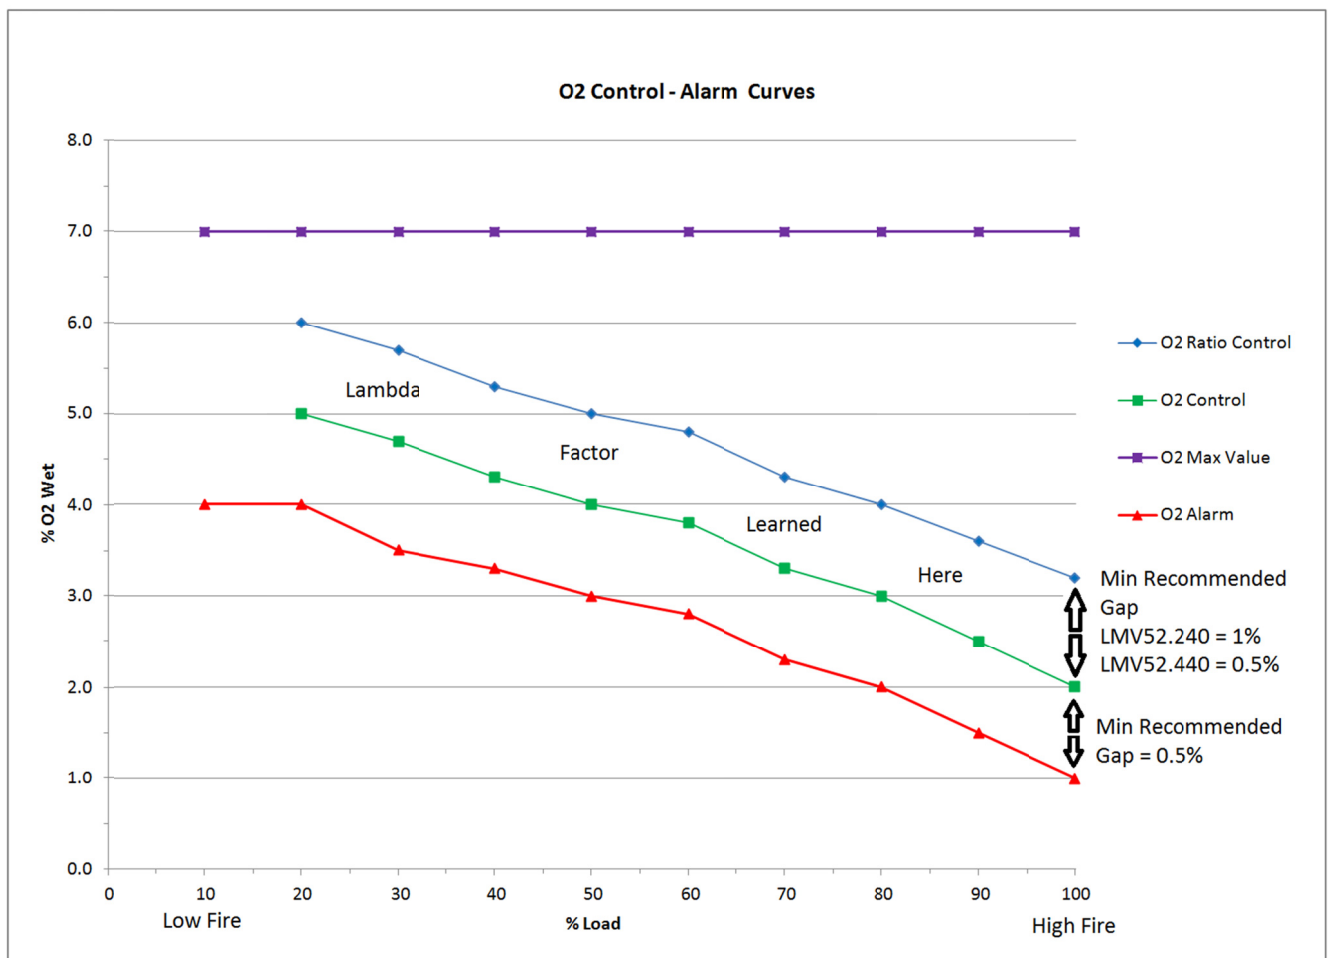

Figure 6-2: O₂ Control and O₂ Alarm Curves
When the O₂ system is commissioned, curves and parameters must be set to define how the system will operate. When set correctly, the curves seen in Figure 6-2 will achieve the following:
As seen in Figure 6-2 above, parameter **O₂ MaxValue** sets the fuel lean boundary for the burner and the O₂ Alarm Curve sets the fuel rich boundary for the burner. These must be set in such a way so that unsafe / unstable operation of the burner is not permitted. However, being too conservative with these boundaries will handicap the system and cause nuisance deactivations of the O₂ trim. General guidelines for these settings will be discussed later in this section. These two curves together set the safety envelope for the burner from a %O₂ standpoint.
8. Set the desired type of pre-control. For most natural gas burners where the gap between O₂ curves is large enough that the Lambda Factor can be learned (see O₂ Control and O₂ Alarm Curves in Figure 6-2), this should be set to “like P air”. The “like theory” setting is typically used for oil burners, and “LambdaFact1” should only be used as a last resort. The menu path for setting the type of pre-control is: